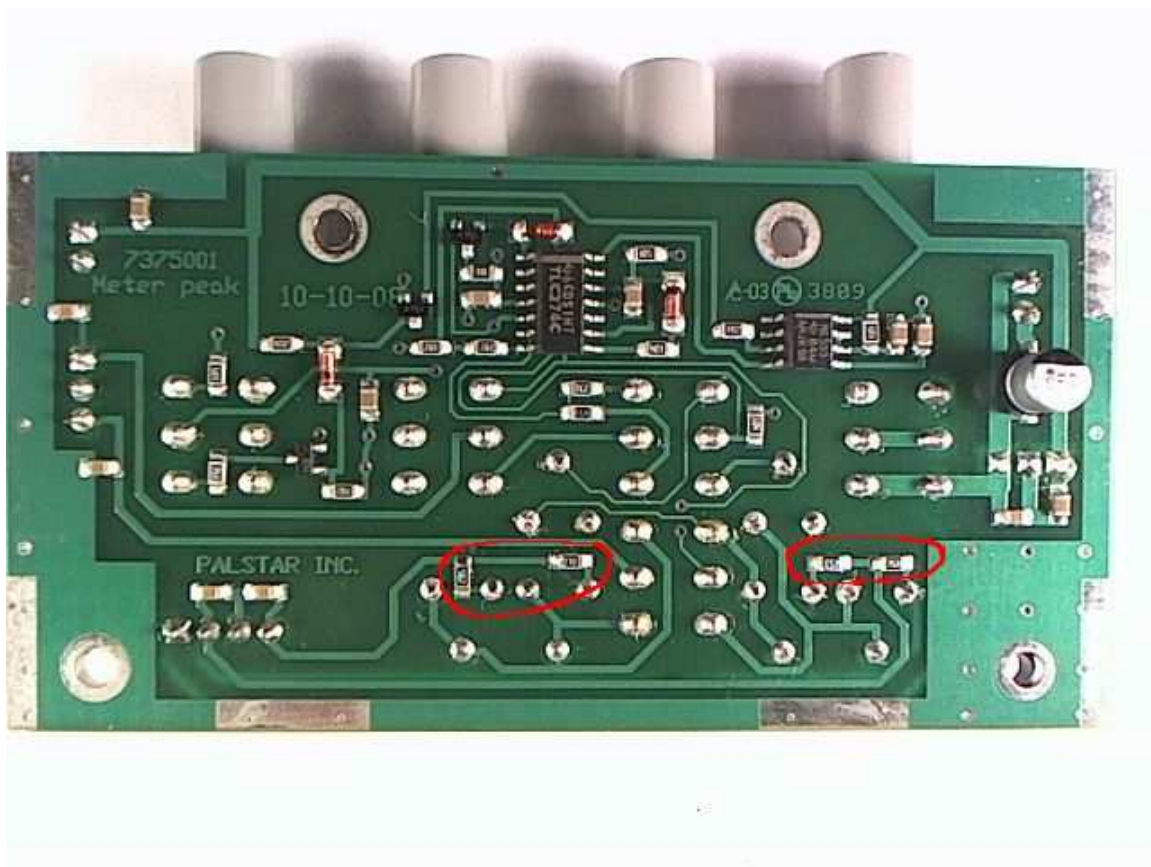

Figure 1.3: AT-AUTO_(tm) Peak - Hold PCB, Showing Four Resistors to be Jumpered/Replaced
- Turn the Peak – Hold PCB upside-down and locate the four resistors shown in Figure 1.3, and either jumper each of these resistors with the supplied #26 wire, or simply remove the four circled resistors and replace each one with one of the four, 10Ω surface mount resistors provided.